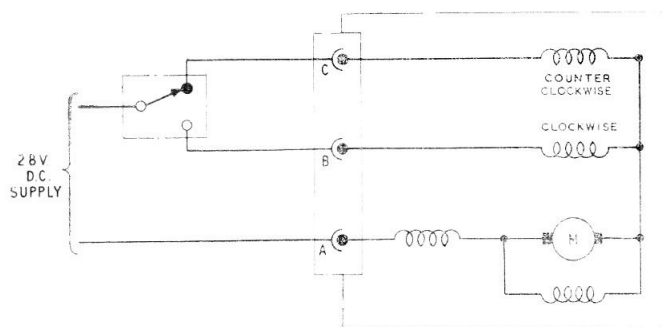

Fig. 2. Circuit diagram
6. A Mk. 3 miniature Breeze, 3 pole plug is fitted, see fig. 2. When connecting the socket to this plug, ensure that there is correct alignment to avoid damage to the moulded projection of the plug.